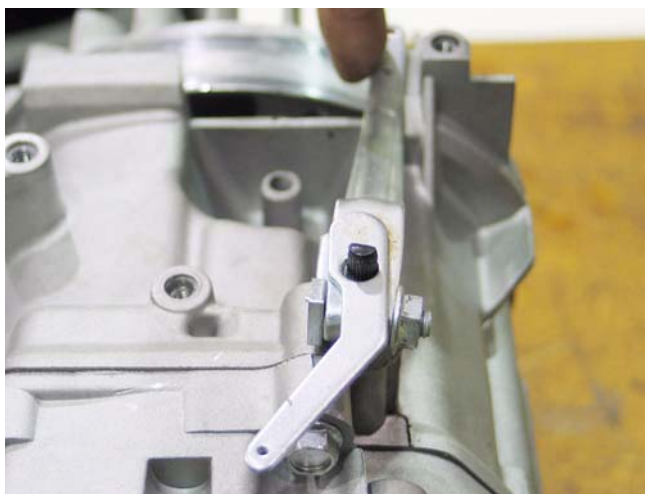

Figure 10.3
10.3. The governor arm may be removed from the governor shaft using a 10mm wrench. See Figure 10.3.